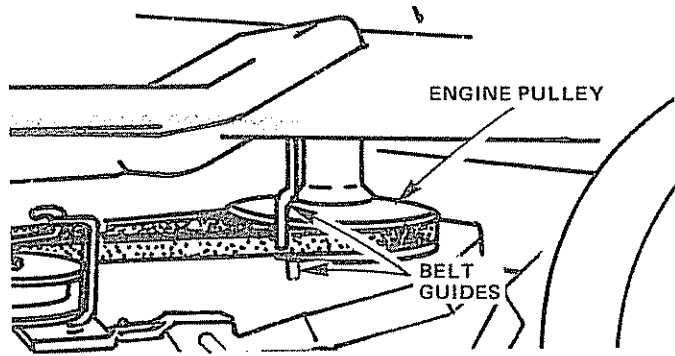

FIGURE 26
3. Roll Belt off Engine Pulley (Fig. 26).